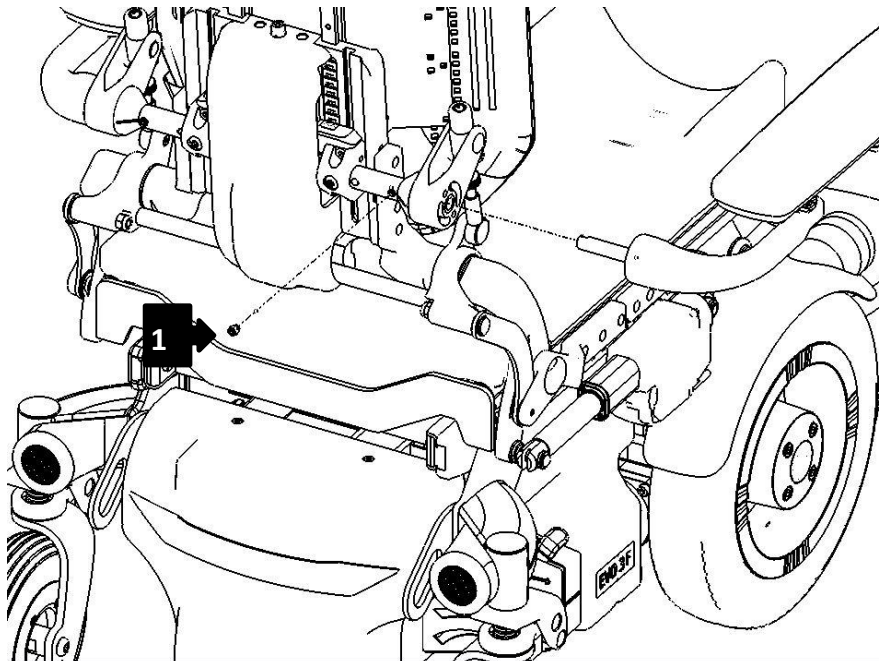

Figure 54
Seeing Figure 54, unscrew the screw (1) and take away the armrest.